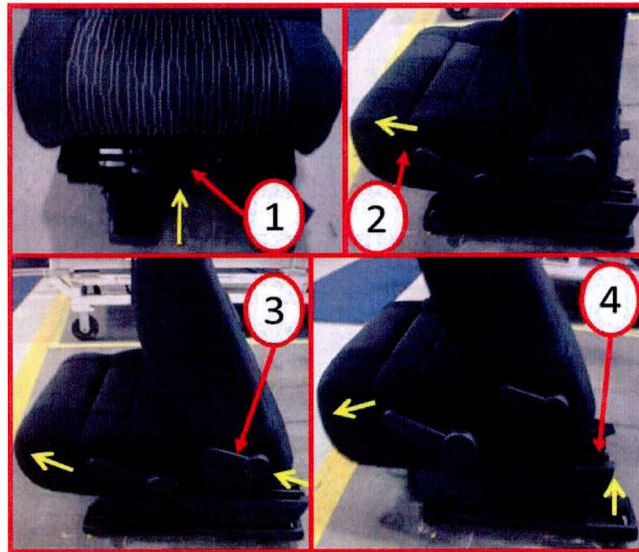

Fig. 1 Seat Adjustment
1. Position the driver seat in the full forward position (Fig. 1).
2. Pull the easy entry handle and position the seat back in the full forward position (Fig. 1).